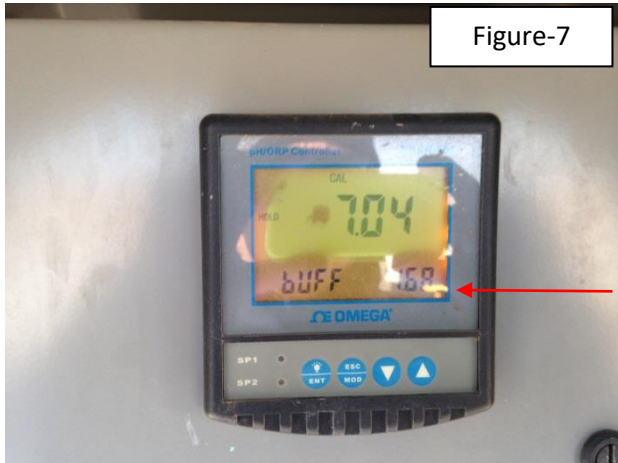

Figure-7
2.3.1.6.4 If error doesn't occur take pH probe out of buffer 7 solution and wash with DI water. (Note: DI water is located in sampling kit.) The screen on PLC will change. See Figure-7 below. Bottom of screen will be modified and will read "buff 1.68 when PLC has buffered to pH 7"